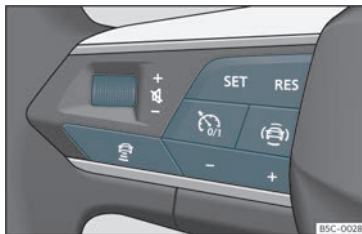

Fig. 156 On the multifunction steering wheel: buttons to operate the ACC
Your vehicle has ACC if it has a configuration menu in the infotainment system >>> page 89 and if it has the ACC function buttons on the multifunction steering wheel >>> **Fig. 156**.
- To start regulation, press the button **SET** >>> **Fig. 156**.
To program the speed, press the + or - >>> **Fig. 156** buttons to the desired speed. The »
- Press the button  and then the button + or ->>> **Fig. 156**.